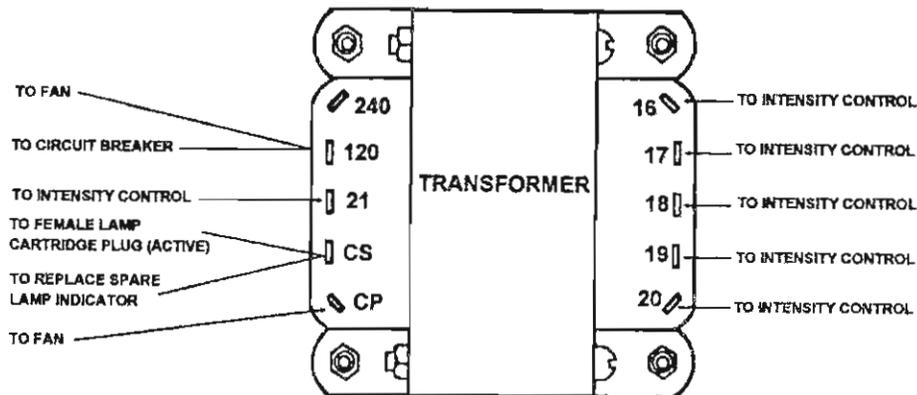

Figure 3-10. Power transformer connections.
- f.* Refer to figure 3-10 and locate the 120-volt and 240-volt terminals on each power transformer. Transfer the wires/terminal connectors from each 120-volt terminal to each 240-volt terminal.